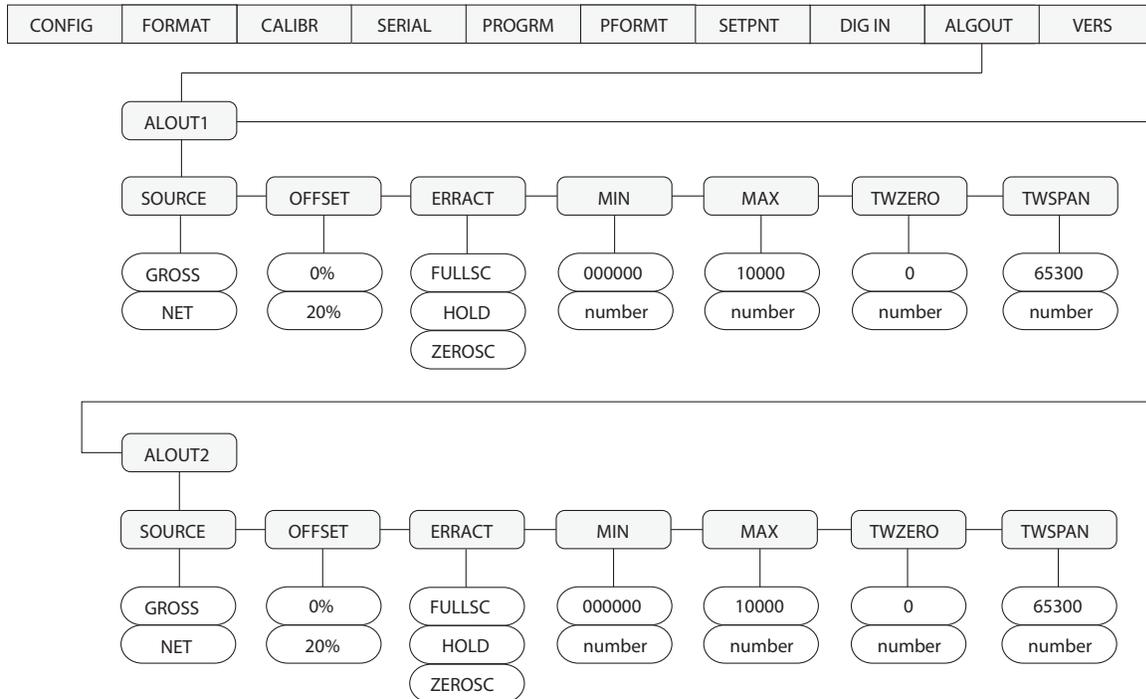

Figure 7-3. Analog Output Menu
- Enter setup mode and go to the ALGOUT menu (see Figure 7-3). See Table 8-7 on page 57 for information on switch settings.